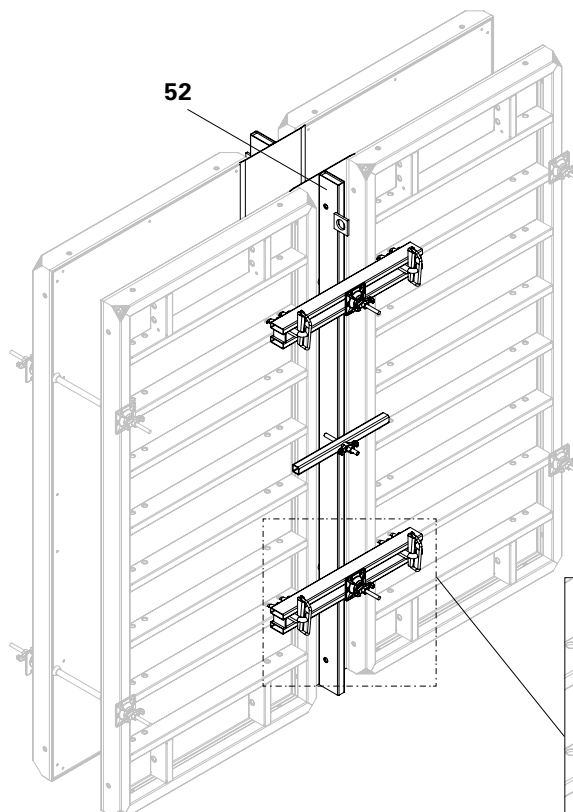

Fig. A11.02
With similar compensations on the opposite side, install the Compensation Waler TAR 85 (23) by means of the hooks from above. (Fig. A11.02)